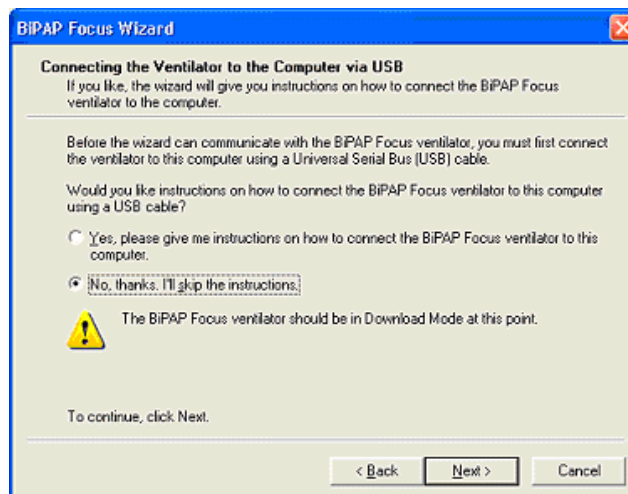

Figure 6-21: Connecting the Ventilator to the Service PC
2. Connect a universal serial bus (USB) cable between the service PC and ventilator. If necessary choose the option to display more detailed connection instructions (Figure 6-21). Click **Next**.